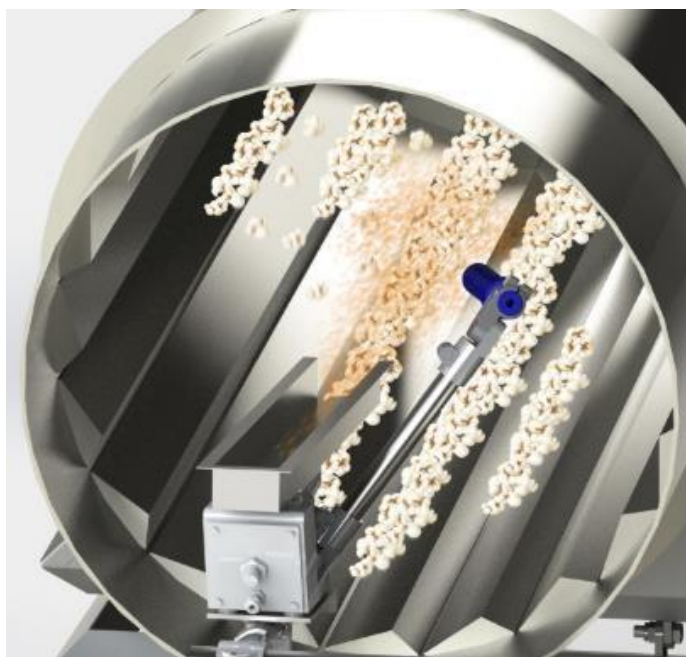

Fig 10
The electrode needle on the electrostatic generating head should be positioned approximately 20-25cm (8"-10") in front of the vibratory tray and approximately 20-25cm (8"-10") apart so the Generator head electrode is towards the centre of the drum facing the tumbling product and powder cloud. (see page 21 - Fig 10)
2. The vibratory powder transfer unit needs to be positioned just below the screw feeder outlet and the powder atomiser needs to be positioned inside the drum facing the tumbling product and running parallel to the drum flights, if possible. (see page 21 - Fig 10)
5. The powder tray and atomiser needs to be positioned inside the drum facing the tumbling product and parallel to the drum flights, if possible (see page 21 - Fig 10)
6. The electrode needle on the electrostatic generating head should be positioned approximately 20-25cm (8"-10") in front of the vibratory tray and approximately 20-25cm (8"-10") apart so the Generator head electrode is towards the centre of the drum facing the tumbling product and powder cloud. (see page 21 - Fig 10)